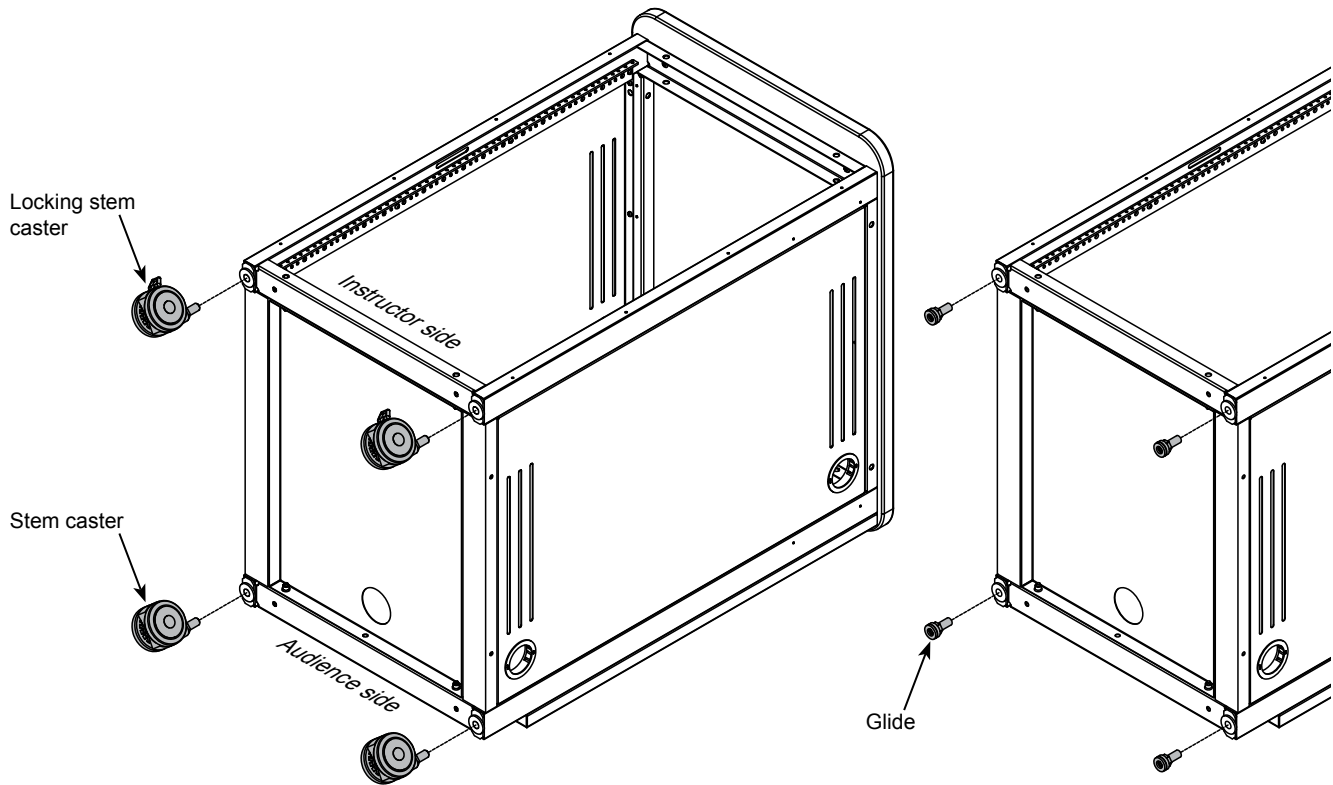

Figure 2
1. On a non-abrasive surface, carefully tip the equipment rack onto its back (audience side). **Figure 2.**